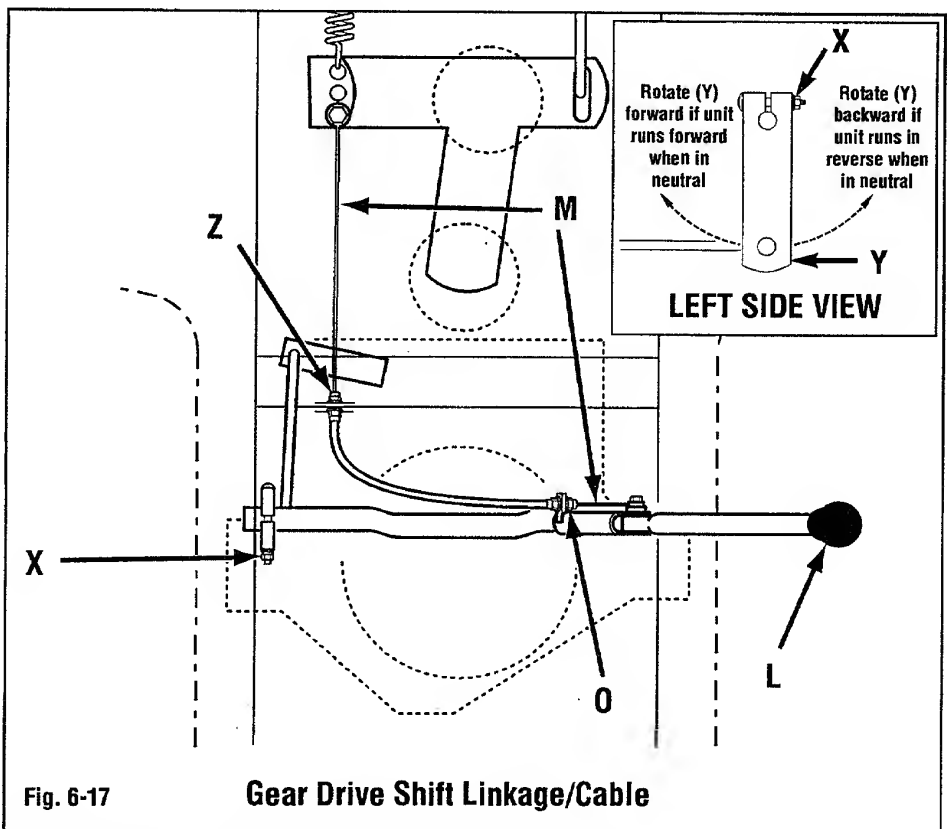
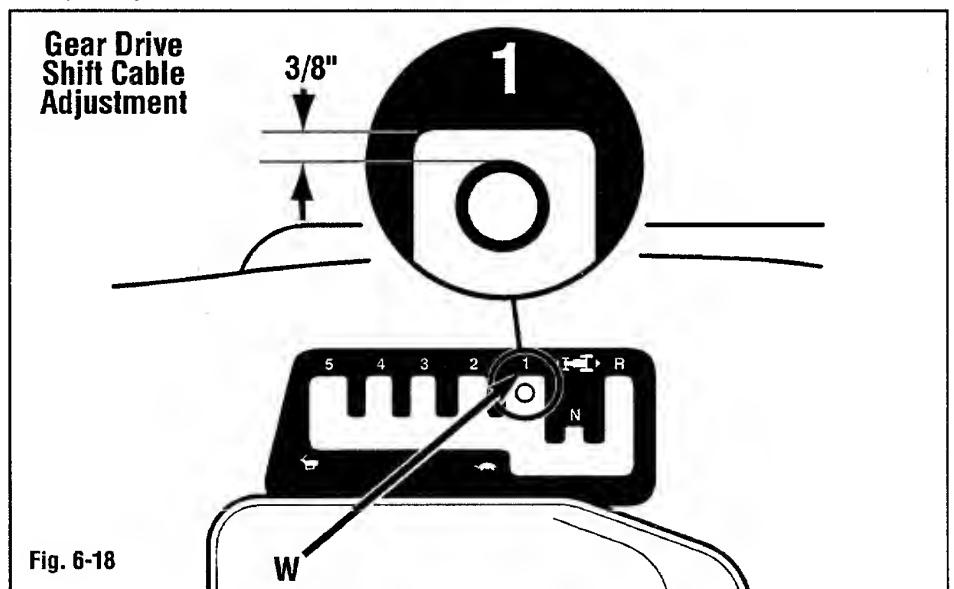

Fig. 6-17
Fig. 6-18
- Loosen nut (X, Fig. 6-17) securing the shift shaft arm (Y) to the shift lever. Rotate the shift shaft arm (Y) slightly forward if the unit runs forward when in neutral. Rotate the shift shaft arm (Y) slightly backward if the unit runs in reverse when in neutral. See detail, Fig. 6-17. Tighten nut (X). Check adjustment. Repeat as necessary.
Place gear shift lever into "1st" gear position. Gear shift lever should be resting on outside quadrant edge (W, Fig. 6-18). Pull gear shift lever (L, Fig. 6-17) in toward center of unit until slack in shift cable (M, Fig. 6-17) is taken up. Adjust shift cable at (Z & O, Fig. 6-17) until a 3/8" gap between outside of shift lever and shift quadrant (Fig. 6-18) exists.